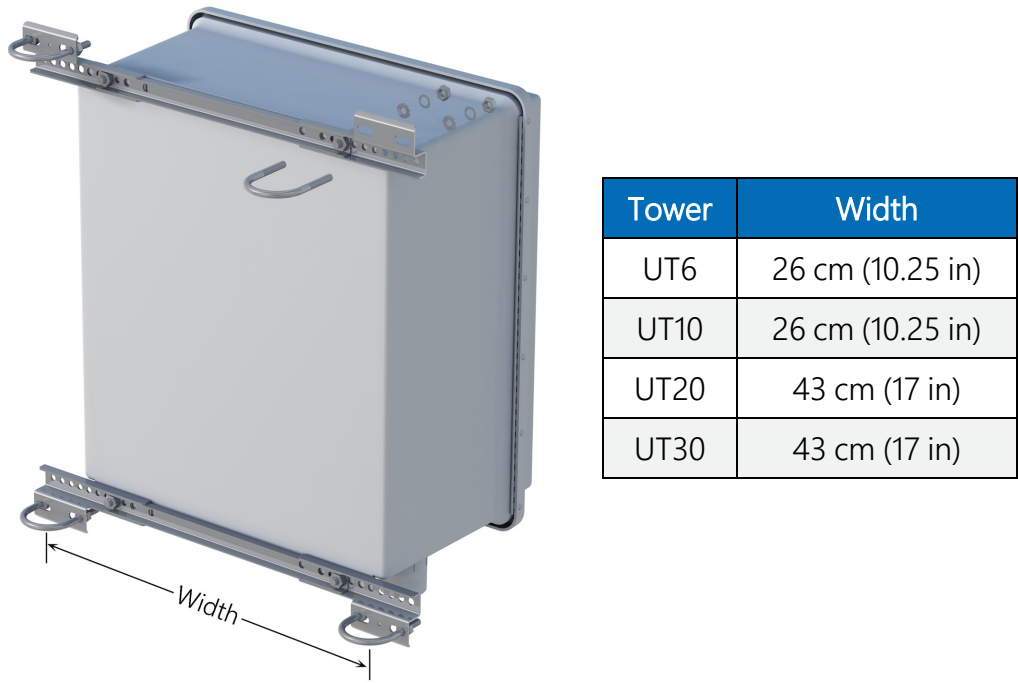
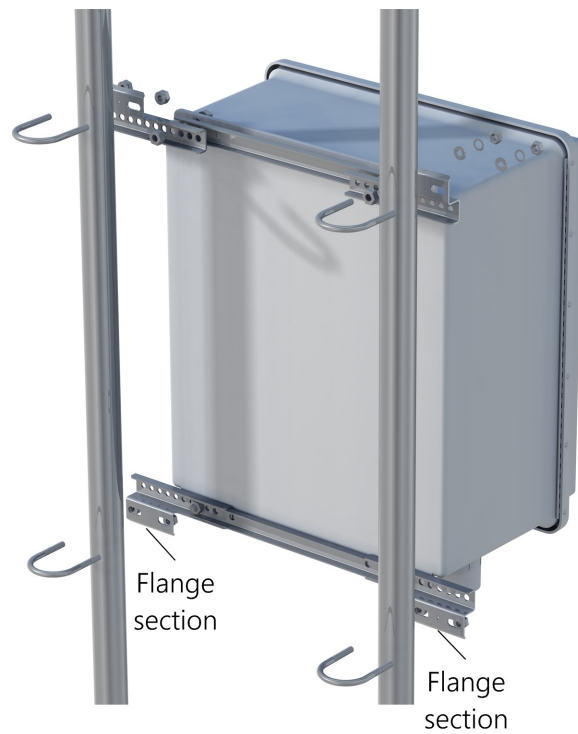
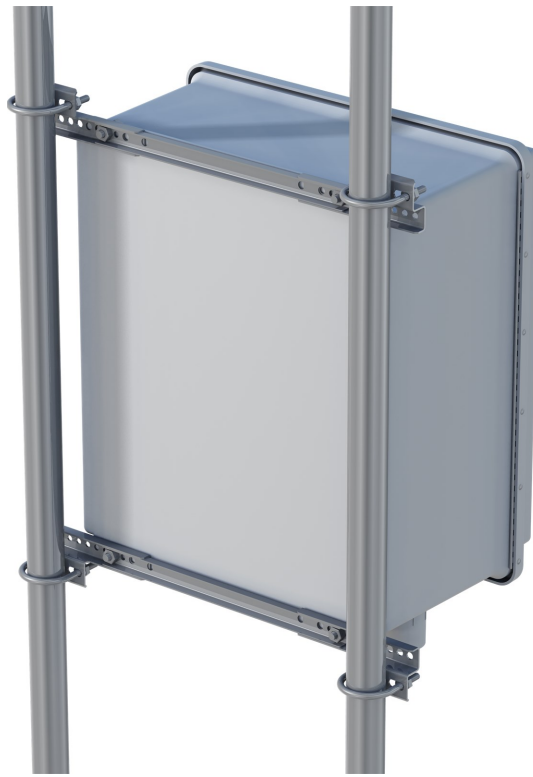

FIGURE 6-9. Enclosure brackets configured for a tower mount
FIGURE 6-10. This exploded view shows the components of a "-TM" bracket option
FIGURE 6-11. An enclosure attached to two tower legs
The “–TM” option is used to attach an enclosure to a tower. An enclosure ordered with the “–TM” option will be shipped with a three-piece bracket mounted to the top of the enclosure and an identical three-piece bracket mounted to the bottom of the enclosure. This mounting bracket option uses the same three-piece brackets as the “–MM” option, except the pieces are rearranged so that the flanges are on the side of the bracket instead of in the middle. The distance between the centers of each flange needs to be 26 cm (10.25 in) for the UT6 and UT10, or 43 cm (17 in) for the UT20 and UT30 (see FIGURE 6-9 (p. 17), FIGURE 6-10 (p. 17), and FIGURE 6-11 (p. 18)).
2. Slide out the flange sections so that the distance between the centers of each flange is 43 cm (17 in) (see FIGURE 6-9 (p. 17)).